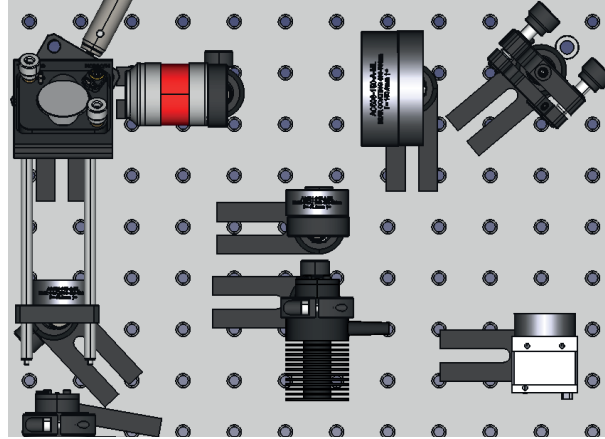

FIGURE 6 – Setting up the fluorescence illumination, part 1.
Step 6 : We now aim to setup the second LED for the epifluorescence mode. In between the microscope objective and the tube lens but 10 cm away (see Fig. 6) place the blue LED with its mount, optical post and post holder. Then, place the small focal length lens few centimeters away from the LED. Here, we do not want a collimated beam, we will adjust the position of the lens later.